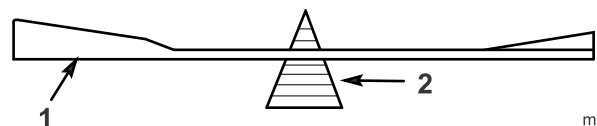

Figure 41
2. Check the balance of each blade by putting it on a blade balancer (Figure 41).